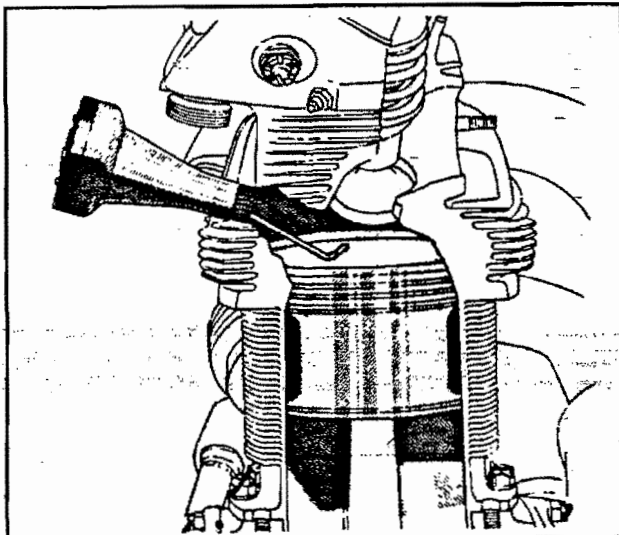

Figure 7-16. Time Rite Installed
b. Remove the front sparkplugs from all the cylinders and install PWA-3252 Vent Plugs. Locate the compression stroke of No. 1 cylinder by either of the following methods: [1] Hold finger over sparkplug hole and turn propeller in normal direction of rotation until compression stroke is noted; or [2] Remove the rockerbox covers from the No. 1 cylinder and turn the propeller shaft in the normal direction of rotation until the piston is at the top of its stroke as determined with the aid of the end of a pencil or a length of wood dowel. Move the propeller back and forward and note whether the valves of the cylinder are actuated. If the exhaust and inlet valves of the cylinder are not actuated, the cylinder is on its compression stroke. If either or both valves are actuated, turn the propeller until the desired condition is obtained. Install R85-I-4075 Indicator (Time-Rite) in the top sparkplug hole of No. 1 cylinder [Figure 7-16].